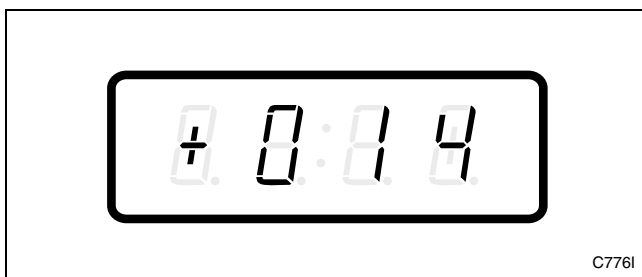

Figure 58
3. Press the LOW TEMP (+) or the NO HEAT (-) keypad to scroll through the programmable options until “+014” appears in the VFD. Refer to *Figure 58*.